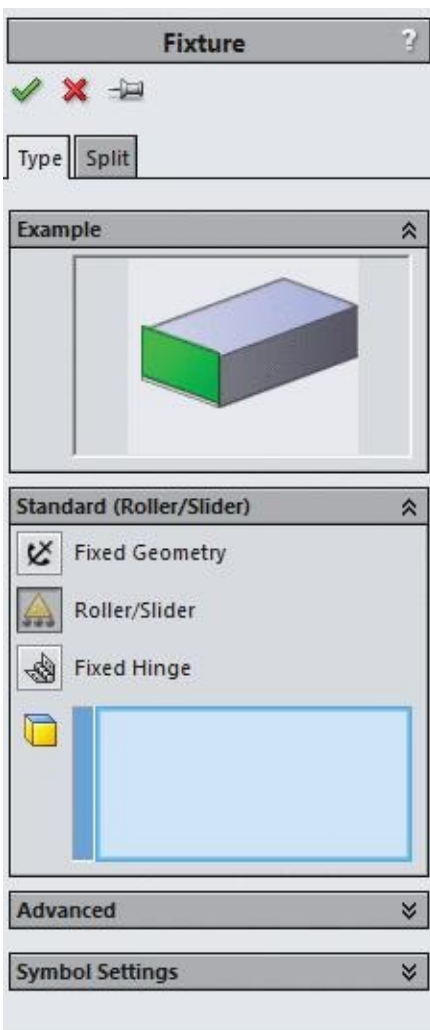

Figure-18. Fixture PropertyManager for roller slider fixture
- Click on the **Roller/Slider** button from the **Fixtures Advisor** drop-down. The **Fixture PropertyManager** will be displayed similar to the one discussed earlier but with the **Roller/Slider** button selected; refer to Figure-18.